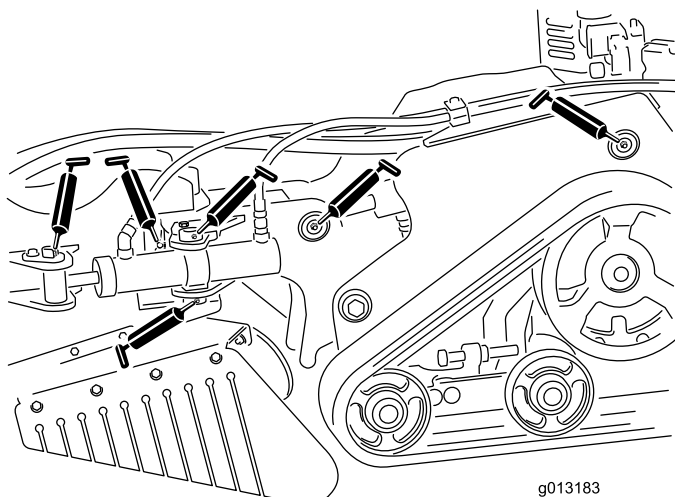
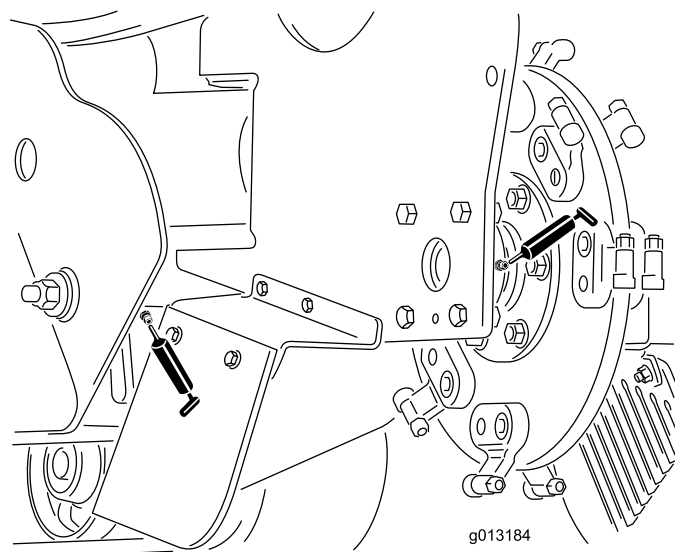

Figure 28
Figure 29
3. Connect a grease gun to each fitting (Figure 28 and Figure 29).